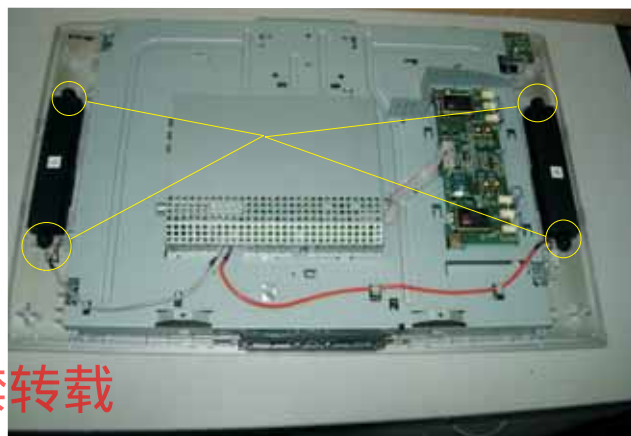

Fig. 16
Step 5. Remove the 4 screws as Fig.16 to remove the speaker